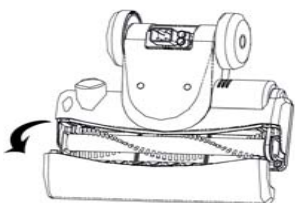

Fig. 19
- Remove the brush cover. (Fig. 19)